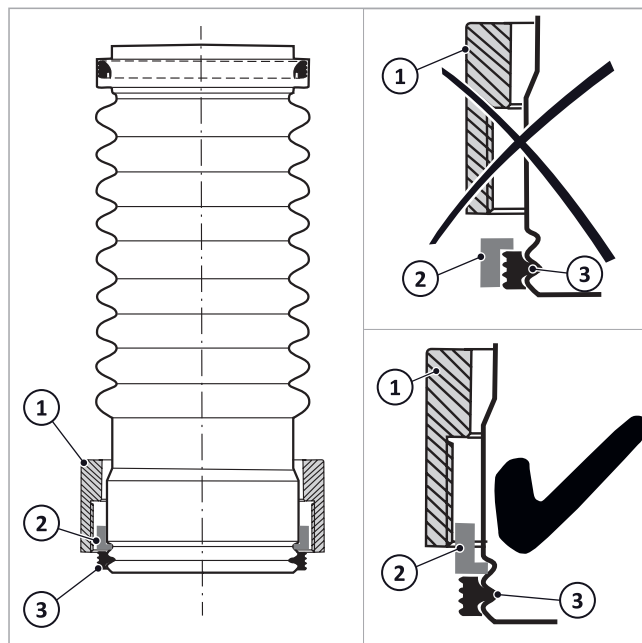

Fig. 41: Union attached
1. As shown in → fig. 41, slide the union nut (1), the snap ring (2) and the seal (3) onto the lower pipe end of the exhaust connection piece.